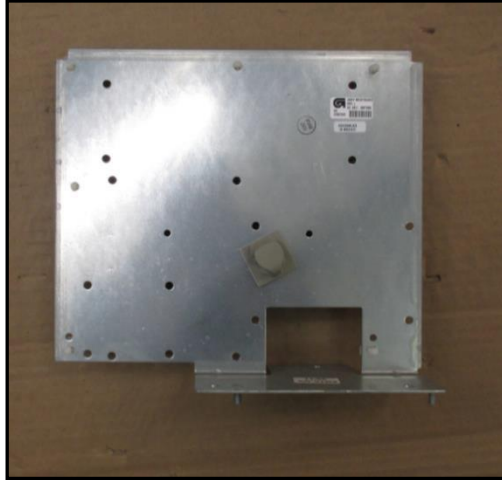

Fig 1.21 – CRIND Control Bracket after removal
- 26.** Remove the CRIND Control Bracket from the dispenser. It can be discarded. It will not be re-installed. (Fig 1.21)